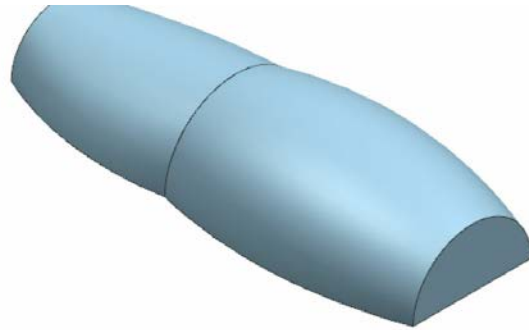

Figure 11-94 Resultant bounded plane surface
3. Invoke the **Bounded Plane** dialog box and then select the closed sketch from the drawing area. Next, choose the **OK** button from the **Bounded Plane** dialog box; the bounded plane surface is created, as shown in Figure 11-94.